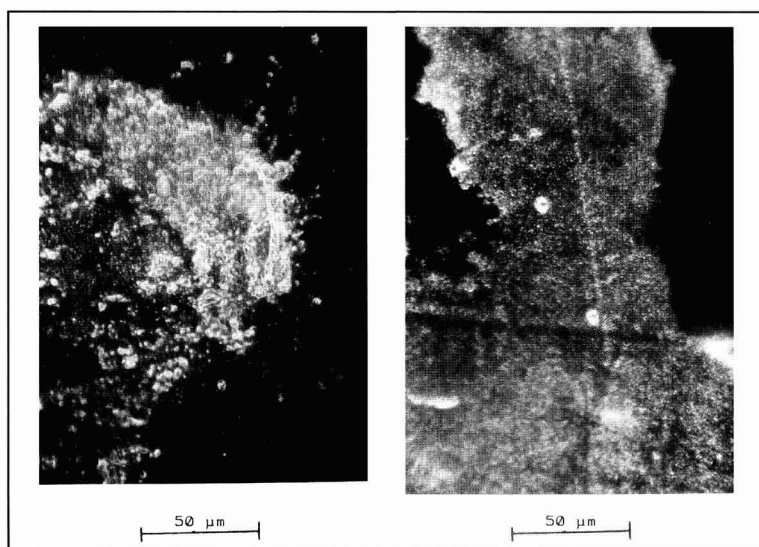
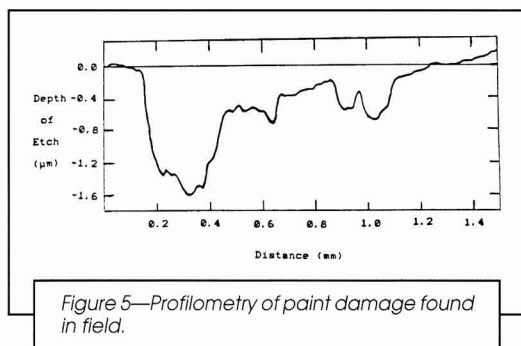

Figure 4—Micrographs of paint damage found in the field. Original magnification: 585X.
Figure 5—Profilometry of paint damage found in field.
**COMPARISON OF CURRENT WORK WITH DAMAGE FROM FIELD EXPOSURES:** We obtained a sample of a basecoat/clearcoat painted vehicle which had been damaged by atmospheric fallout. Visually and microscopically, the field inflicted damage appeared comparable to the damage found for our laboratory samples after being exposed to acid concentrations  $10^{-2}$  and  $10^{-4}$  N for 500 min (Figure 4). The size of the damaged areas was about 1-3 mm in diameter, and profilometry measurements of several of these spots found them to be mildly etched (1-2  $\mu$ m, Figure 5). Profilometry of the spotted panels has demonstrated that both swelling and etching occur for